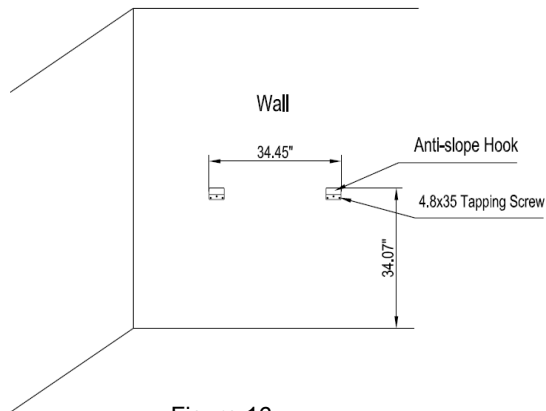

Figure 16
**STEP 3:** According to the dimension of drawing, made six holes in the wall and put wall anchors in it. Anti-slope hook is fix in the wall by six screws (35mm Lengths) (Figure 16). The way of installation tapping screw in the next step.